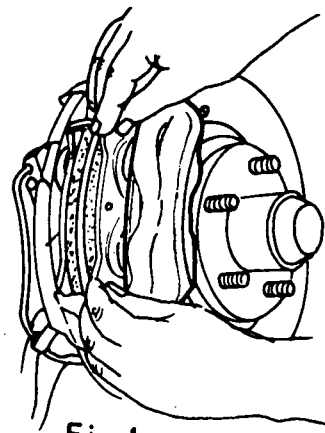

Fig. 1
- d) Remove the braking pads (fig.1) and mark them so as to facilitate identification later.